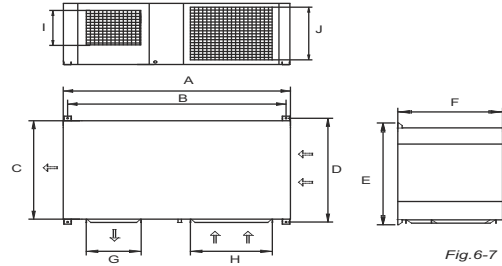
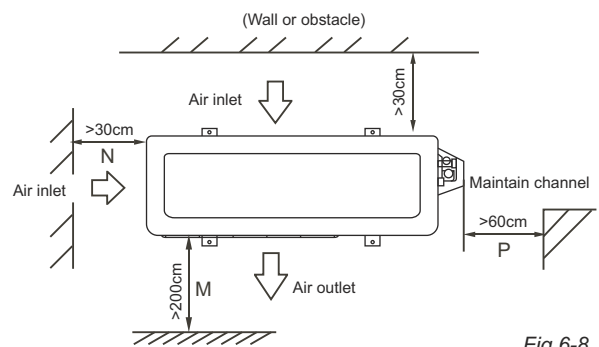
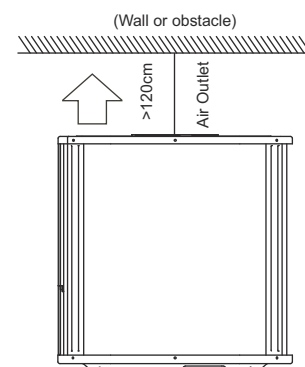

Fig.6-7
Fig.6-8
Fig.6-9
- The minimum distance between the outdoor unit and obstacles described in the installation chart does not mean that the same is applicable to the situation of an airtight room. Leave open two of the three directions. (Refer to Fig.6-7, Fig.6-8, Fig.6-9)